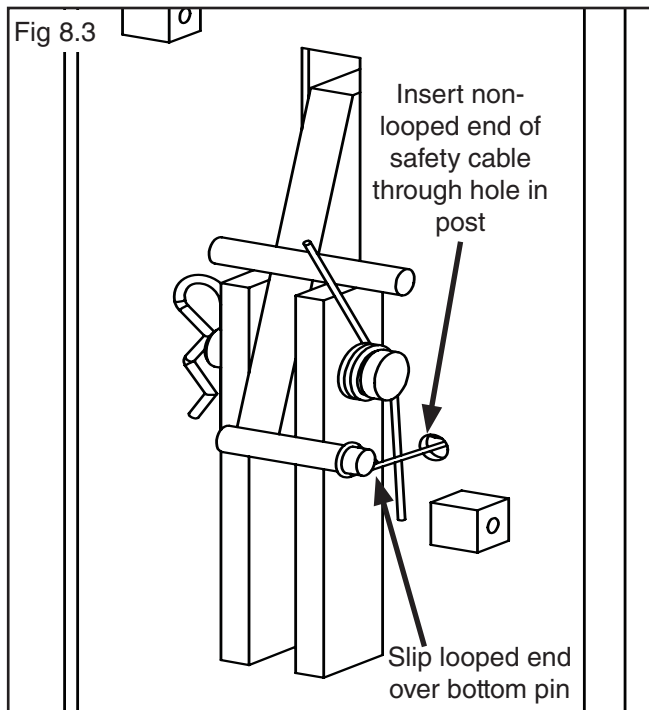

Fig 8.3
2. From the Off Side post insert the non-looped end of the safety cable through the hole located to the right of the Off Side safety weldment. (See Fig 8.3)